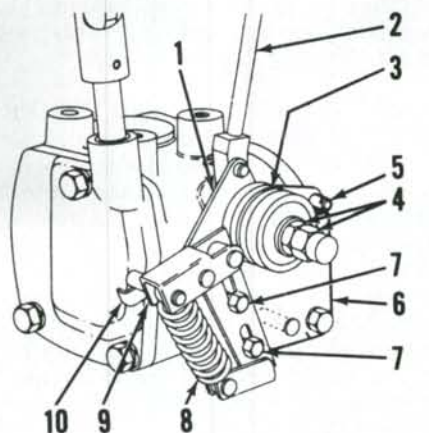
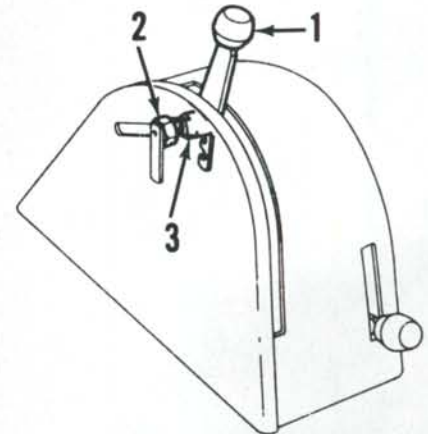

Fig. 247—View of control lever linkage friction adjustment and spring carrier adjustment points.
Fig. 249—View of typical quadrant control lever (1) and stop (2).
314. CONTROL LEVER FRICTION DISC ADJUSTMENT. If lift linkage control lever moves from a set position, tighten nuts (4—Fig. 247) to
315. SPRING CARRIER ADJUSTMENT. Start engine and run at 1800 rpm. Move selector dial to POSITION control setting. Hold linkage control lever in SELECT position until linkage is at full height and pump relief valve opens. Slowly move control lever forward until relief valve closes but lift arms do not lower. Hold control lever in this position. Loosen the two bolts (7—Fig. 247) and move spring carrier (9) until it contacts lever stop (10). Tighten the two bolts to secure adjustment.
317. SELECT STOP ADJUSTMENT. Place selector dial in POSITION control setting. Loosen nut (2—Fig. 249) and move stop assembly (3) to bottom of slot. Move linkage control lever (1) rearward until friction lever pin (5—Fig. 247) contacts plate (6). Move stop until it just contacts linkage control lever, then tighten nut to retain stop in this position.